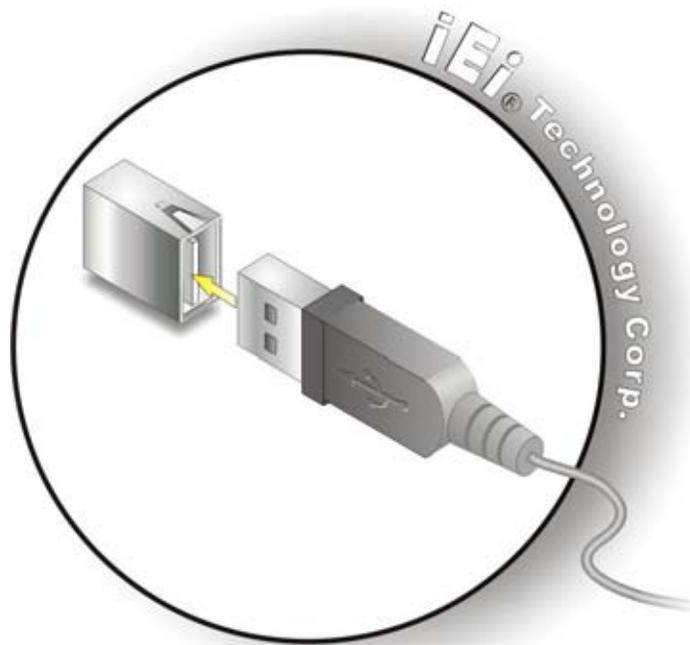

Figure 4-16: USB Device Connection
Step 2: Align the connectors. Align the USB device connector with one of the connectors on the PCISA-945GSE. See Figure 4-16.